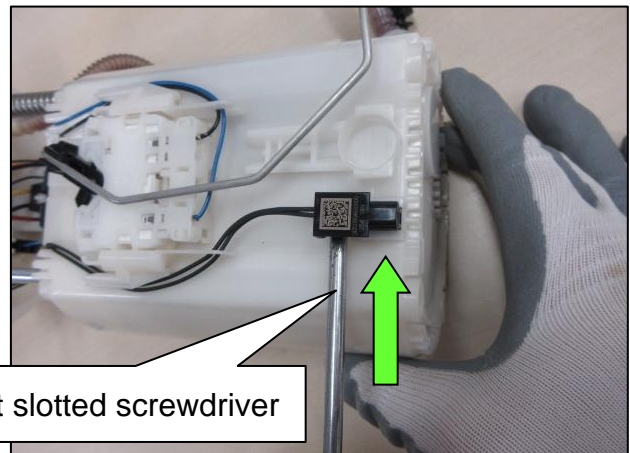

Figure 5
4. Insert a slotted screwdriver into the gap or open space between the fuel temperature sensor and the side of the fuel pump body as shown in Figure 5.